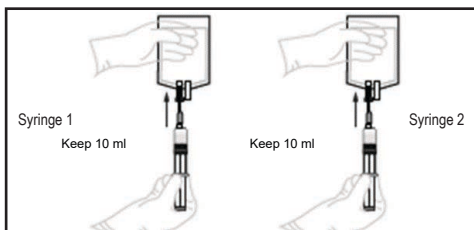

Figure 14.
- 4.2 Attach a sterile filter needle to one of the loading syringes. With the filter needle pointed upward, expel supernatant allowing ~10 ml to remain in the syringe. Repeat step with the 2nd loading syringe (Figure 14).